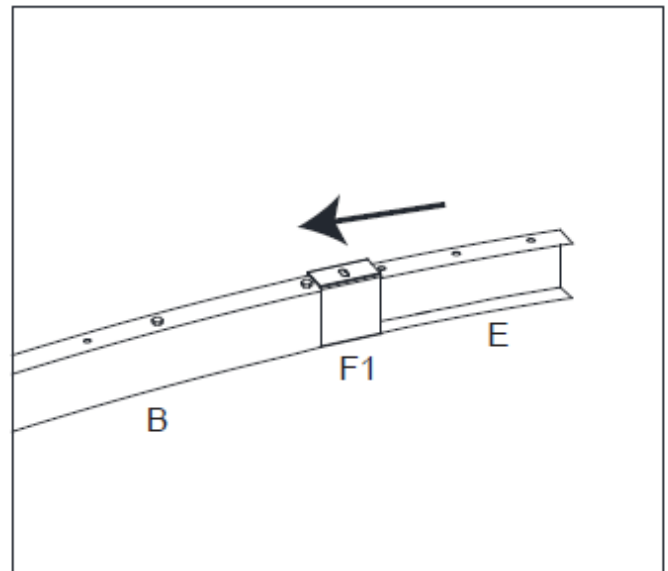

Figure 4-2
Step 4B: Insert the Curved Top Beam (B) and Cross Beam Center Connector Plate (E) into Beam Connector (F1). See Figure 4-2.